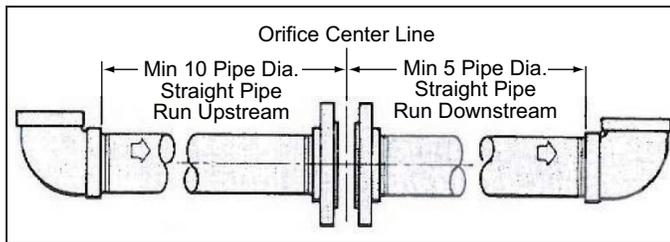

Figure 1.
2. Locate the "FOM" in the system as shown in Figure 1.
2. Locate the "SOM" in the system as shown in Figure 1 with the beveled side of the orifice plate facing downstream.